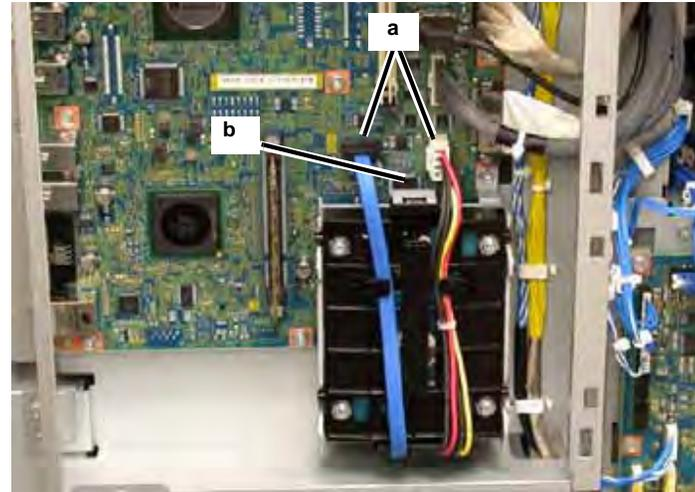

Figure 2 Removing HDD
3. Remove the HDD (Figure 2).
- a. Disconnect the connectors (2).